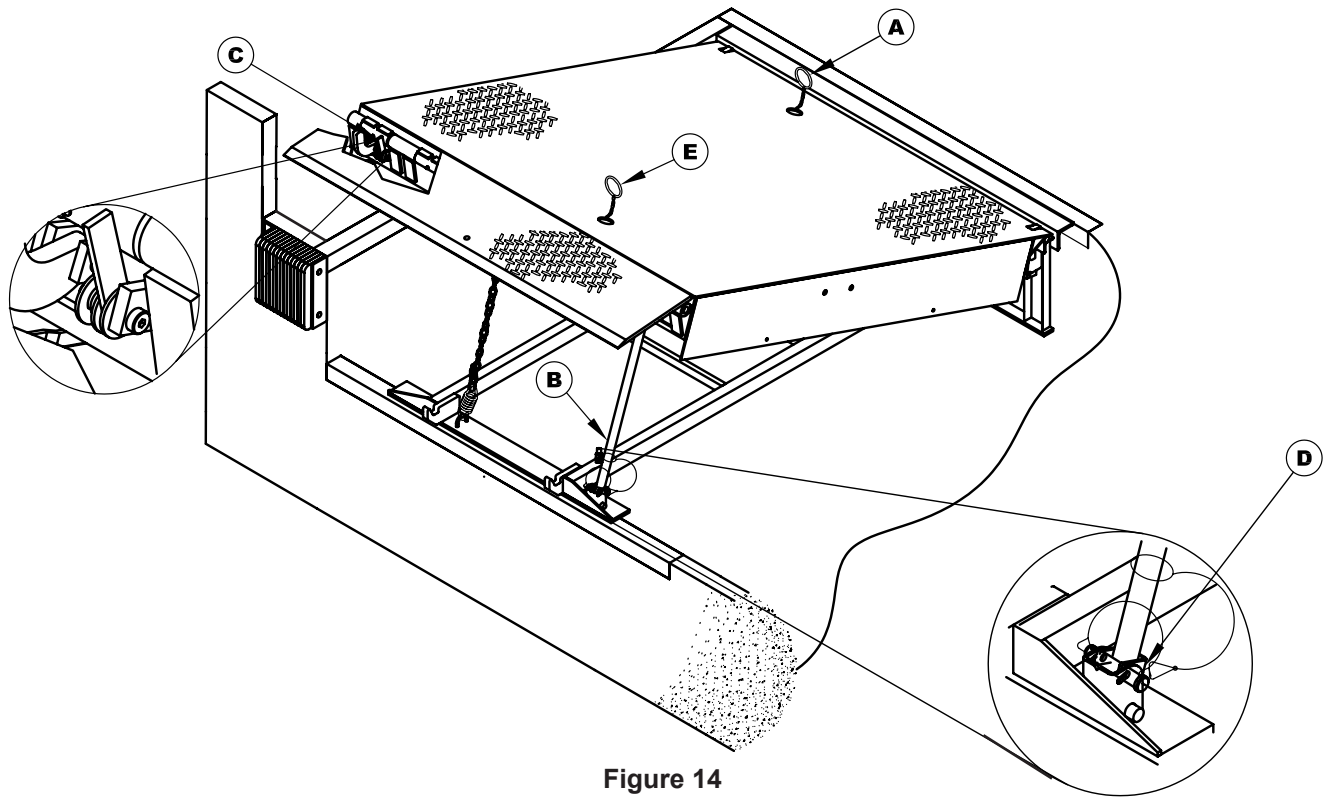

Figure 14
22. Shim and weld the maintenance prop (Figure 14):
- Install shims under maintenance prop (B) where prop attaches to leveler frame. Make sure prop is solidly shimmed.
- Raise maintenance prop (B) to the service (upright) position and lock prop in this position using an OSHA approved locking device.